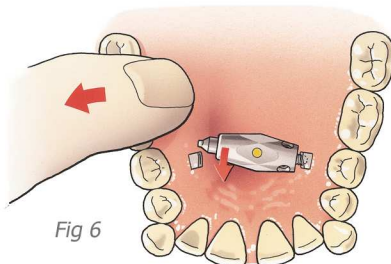
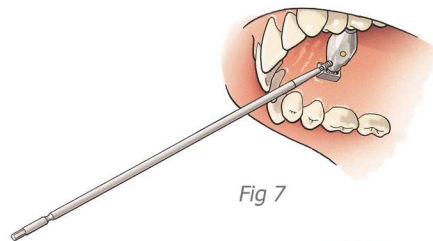

Fig 6
Fig 7
- 5 The proper module is installed preoperatively (Fig 6). Placement requires some prying of the segments and adjusting of the wings of the module. The module should be placed such that expansion will occur when the patient rotates from cranially to caudally. This means with the holes for the blocking screw to the right. The module is secured with a blocking screw (Ref 99-100S). This is best done by adjusting the screw in the bore with the internal screwdriver only (Ref 99-909S), **without** the screwdriver handpiece (Ref 99-901A) to avoid damaging the screw-thread in the module (Fig 7).